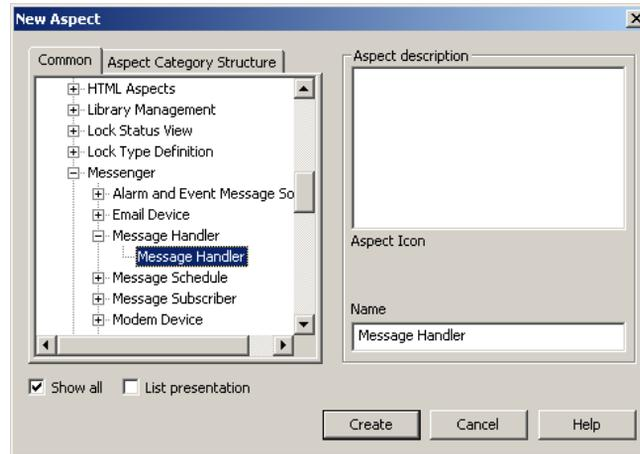

Figure 119. New Aspect Dialog Box (Message Handler)
- b. Navigate to and select Message Handler from the list that appears to produce the view shown in Figure 119.